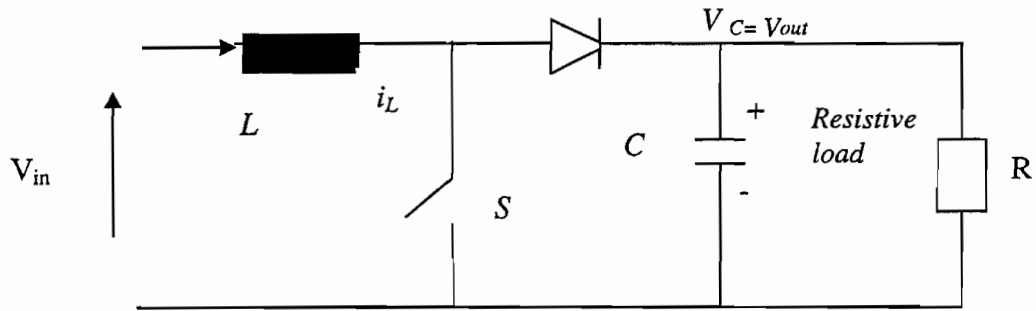

Fig.Q5
Fig.Q5 shows the schematic of a boost (step-up) converter.
- (a) Assuming that the inductor current is continuous, sketch the equivalent circuits for the conducting paths and derive the state-space equations (using i_L and v_C as state variables) in the time domain for the circuit shown in Fig.Q5 (including the effect of the load) when the